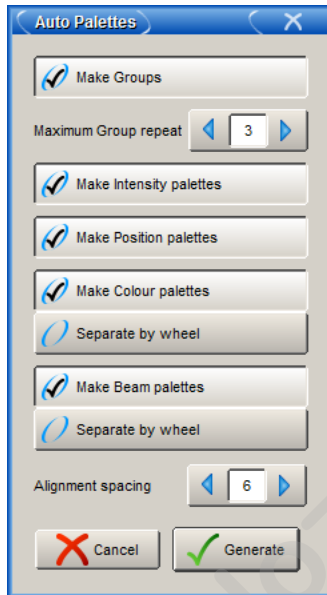

Figure 14.6. The Auto Palettes window
2. Click on the Auto Palettes button (located in the toolbar at the top of the Fixture window) and select from the options in the Auto Palettes window; see Figure 14.6, “The Auto Palettes window”.